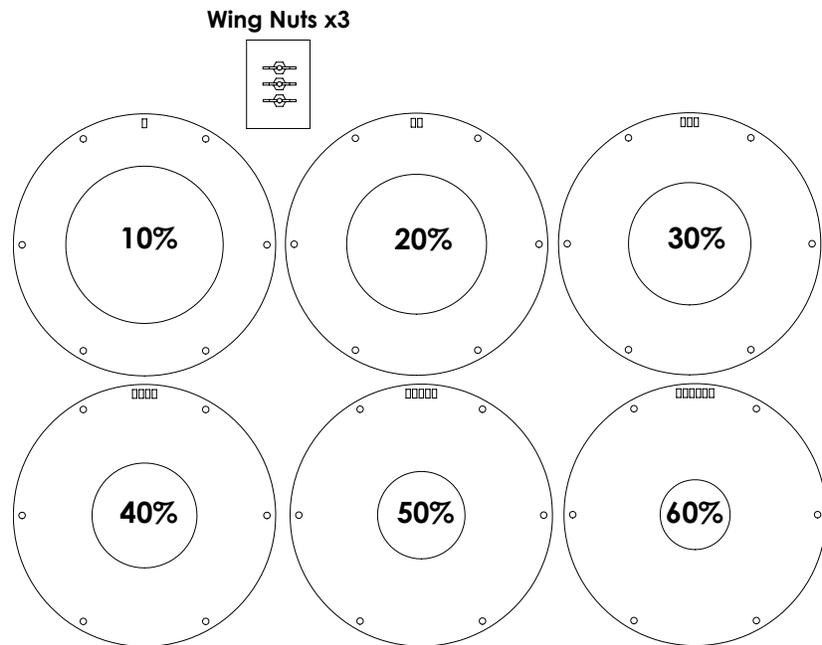

Figure 44. Restrictor Ring Kit
**Note:** There are six different restrictor sizes, they are marked with rectangular holes which coincide with the percentage of restriction (Figure 44).